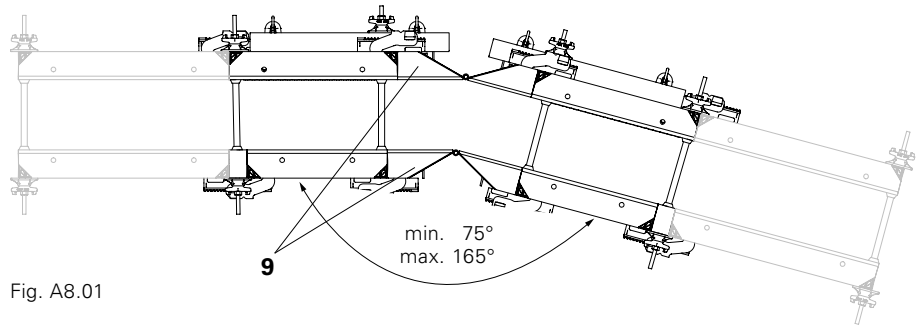

Fig. A8.01
The Articulated Corner TGE (9) is used to form angles of 75° and more. (Fig. A8.01)